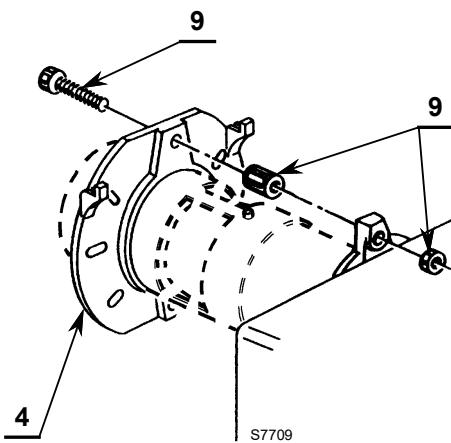

Fig. 9
- Insert on the flange 4)(Fig. 9) the screw and the two nuts 9).